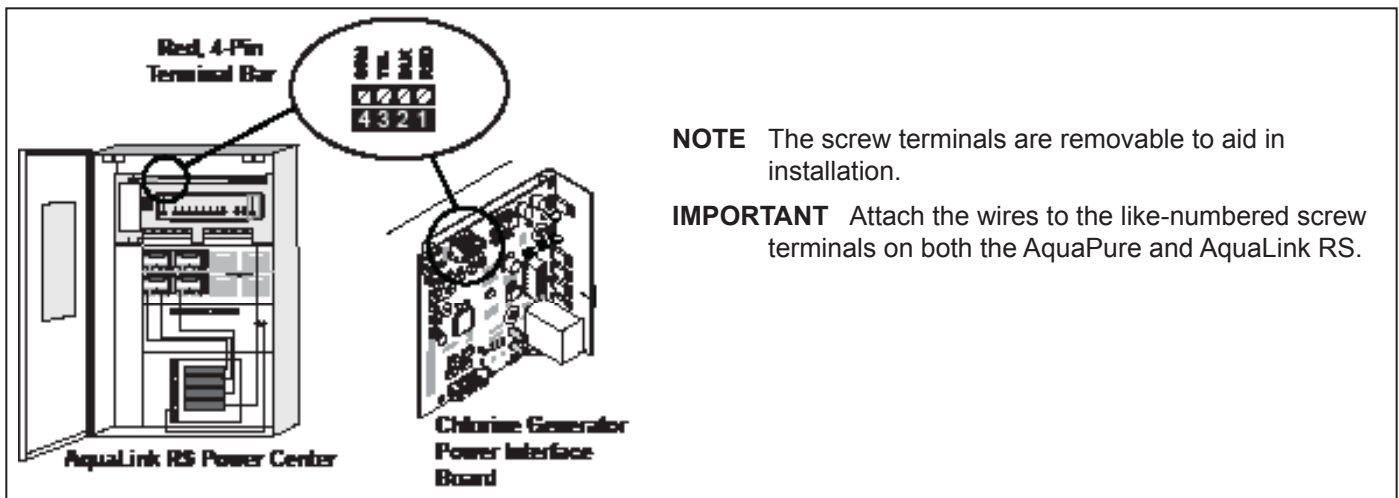

Figure 13. Communication Connection between AquaPure Control Centre and AquaLink RS Control System
The Jandy AquaLink RS and AquaPure use a four (4) wire connection to communicate and can be wired up to 152 m (500 feet) apart. Any outdoor rated four (4) conductor cable, minimum 22 AWG, can be used. Locate the appropriate screw terminals on the circuit board according to Figure 13. Wire the AquaPure from the red 4-pin terminal bar to the AquaLink RS red 4-pin terminal bar (see Figure 13).